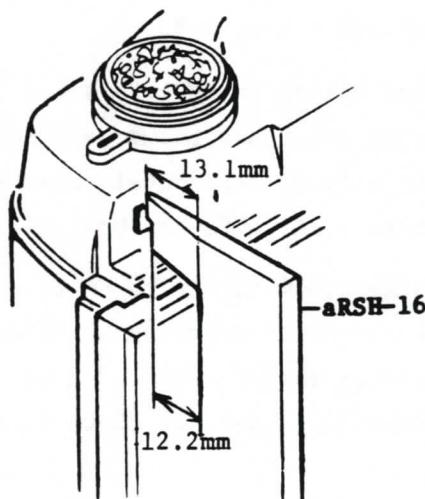

Fig. 142
3) Use Gauge for double exposure prevention device (aRSH-16) for confirmation, Preventive lever shall be within the range of 12.2 to 13.1mm including the play in the direction of to and fro as shown in Fig. 142.